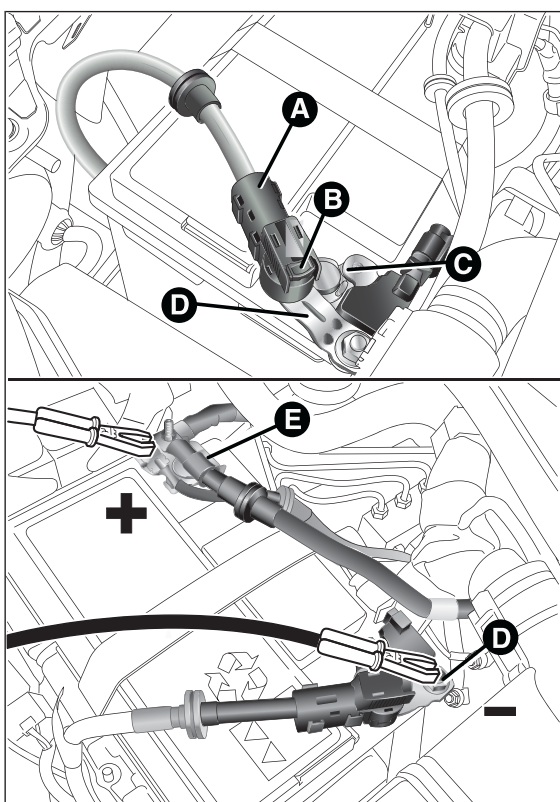

fig. 137
- ☐ disconnect the connector A fig. 137 (pressing the button B) from the sensor C monitoring the battery conditions, on the negative pole D of the battery;
- ☐ after having disconnected the battery charger, reconnect connector A fig. 137 to the sensor C as shown.